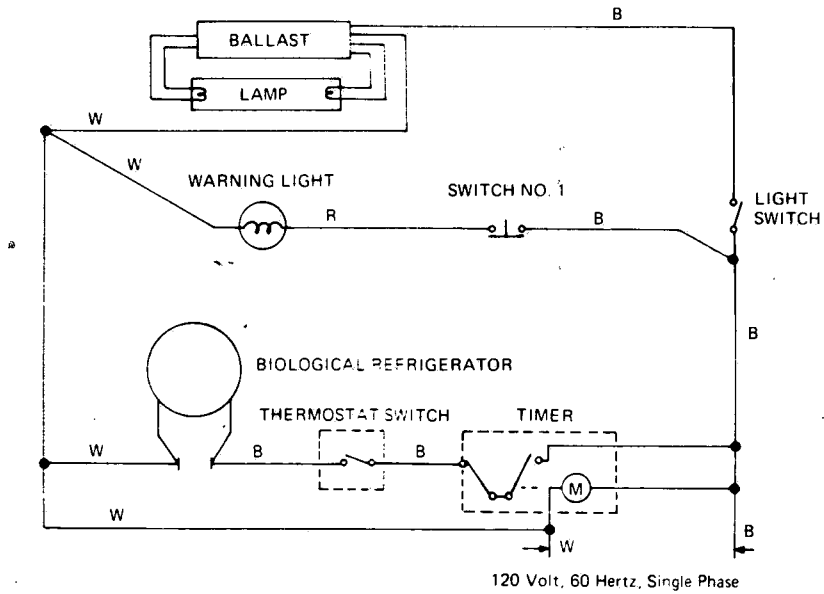

Figure 4-1. ELECTRICAL SCHEMATIC.
3. Use the electric schematic (Fig. 4-1) as aid in understanding system operation and how the malfunction of a specific component would affect it.